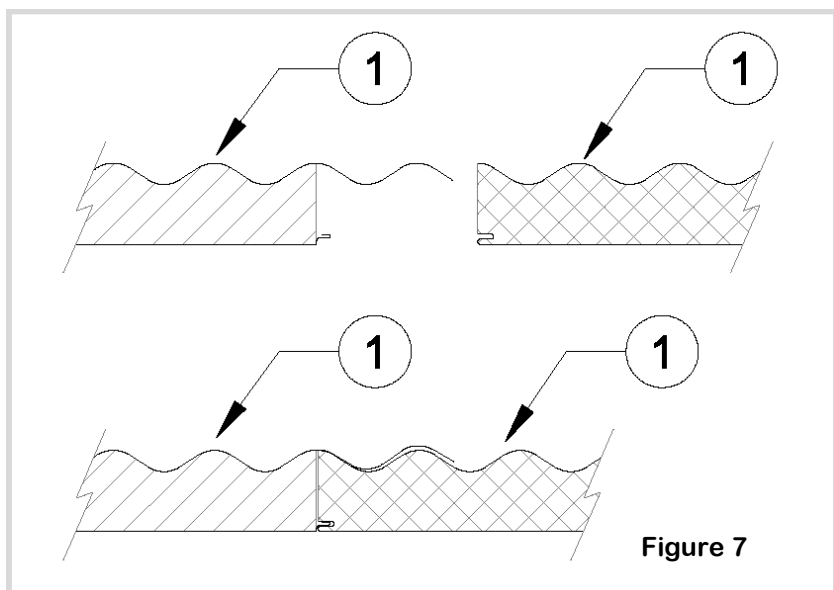

Figure 7
The separate roof panels are locked together as shown in Figure 7 with the corrugated overlap on one side of the panel overlapping the adjacent panel.
The second roof panel is then positioned against the first roof panel by sliding into the mating connection between the two panels as shown in Figure 7. This second panel is then secured to the receiver channel using wafer head screws (item 17). Take care not to damage the roof panel surface when sliding the panels together.